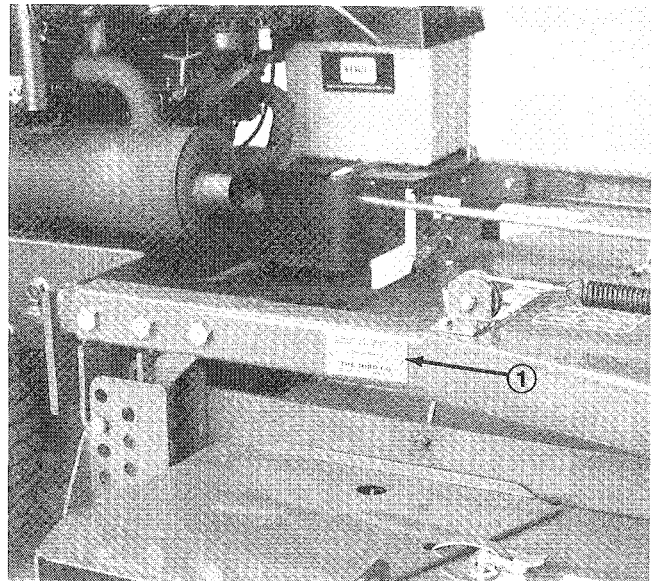

Figure 23
4. Install new belt around spindle pulleys and idler pulley (Fig. 23).
The cutting unit has two identification numbers: a model number and a serial number. These numbers are stamped into a plate. The cutting unit identification plate is located behind the right front caster wheel (Fig. 23). In any correspondence concerning the cutting unit, supply the model and serial numbers to assure correct information and replacement parts are obtained.